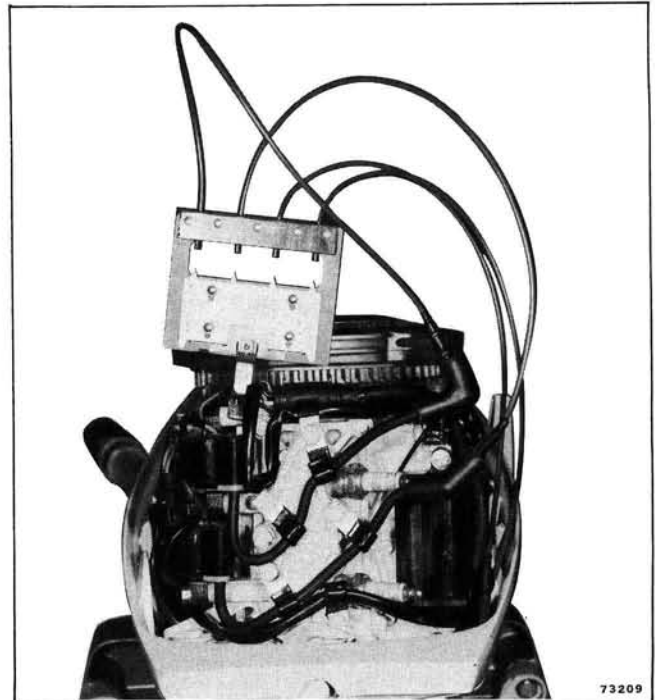

Figure 4-14. Spark Tester
b. Adjust the air gap of the spark tester to 1/2 inch (12 mm) and connect the tester leads to the high tension leads. Secure the other end of the spark tester to a clean engine ground. See Figure 4-14.